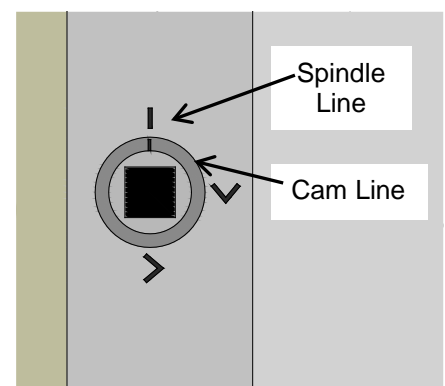

figure 23
2. Turn the first cam counterclockwise (ccw) using the chuck key until the line on the cam is aligned with the line on the spindle housing as shown in (fig. 23).